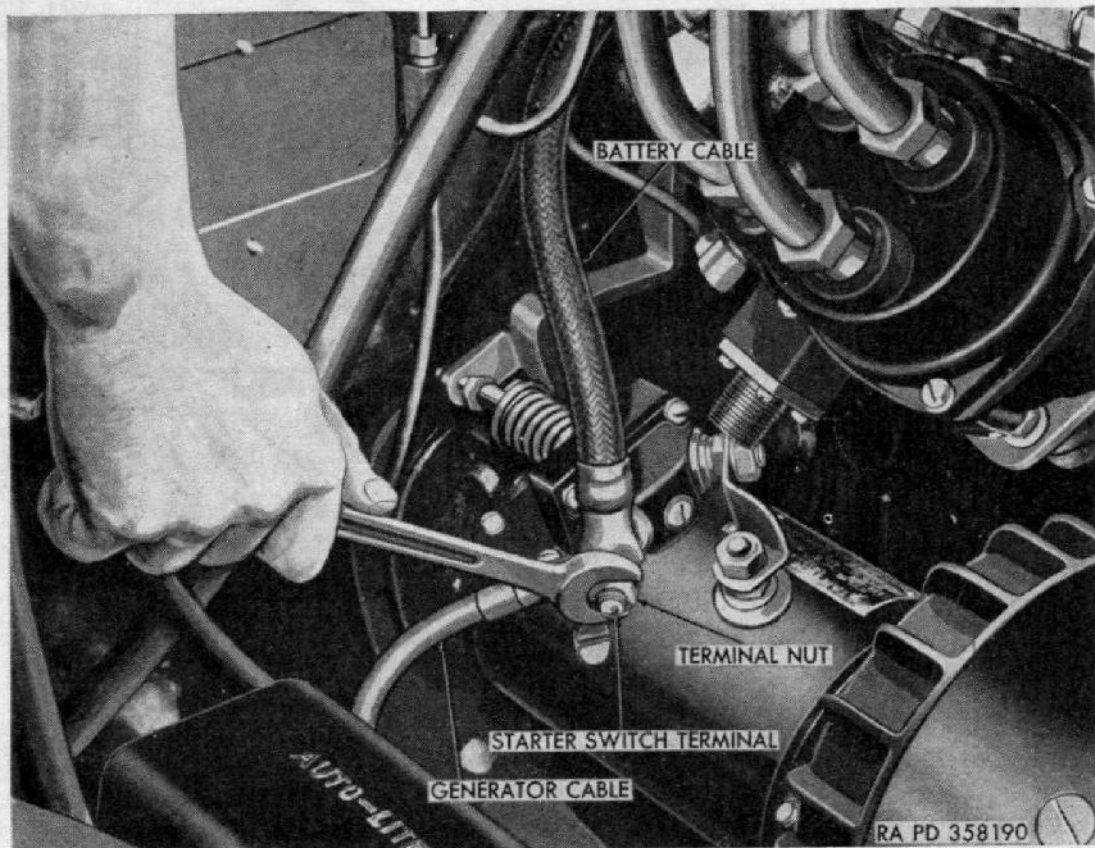
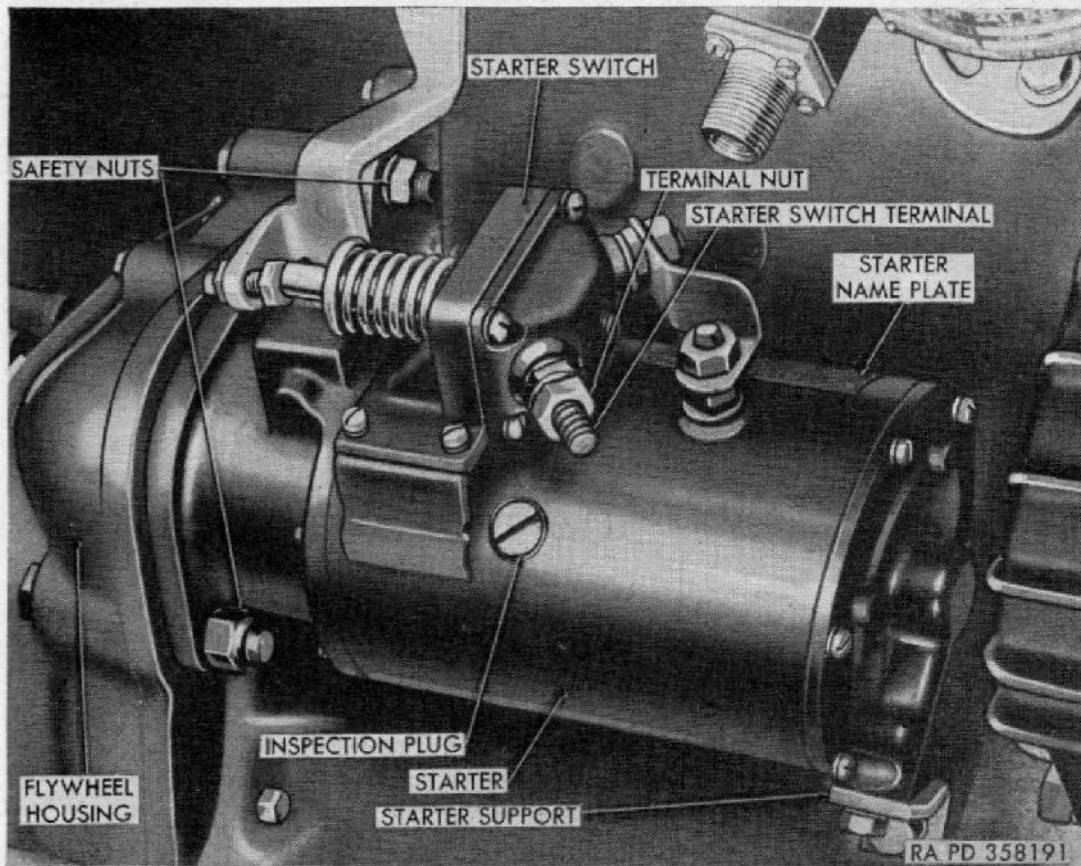

Figure 65. Removing terminal nut from starter switch terminal.
Figure 66. Starter installed on engine.
- (2) *Starter.* The starter (fig. 66) is a completely sealed waterproof unit mounted on the right side of the engine. The starter switch (fig. 66) is an integral part of the starter and is mounted on the top of the starter assembly. The starter is a four pole, four brush unit with three field coils connected in series and one shunt. The starter is equipped with an overrunning clutch type drive which automatically disengages when the engine is started. The bearings are pre-lubricated at assembly and require no attention.
*a. Removal.* Remove terminal nut (fig. 65) and remove battery cable, generator cable, and outlet receptacle cable (if installed) from starter switch terminal. Remove cap screw and lock washer securing front of starter to starter support (fig. 66). Remove two safety nuts securing starter to flywheel housing and remove starter and gasket.
*b. Installation.* Install starter on flywheel housing with a new gasket and secure to flywheel housing with two safety nuts. Secure front of starter to starter support (fig. 66) with cap screw and lock washers. Place distributor cable, battery cable, and outlet receptacle cable (if installed) on starter switch terminal (fig. 65) and tighten terminal nut securely.